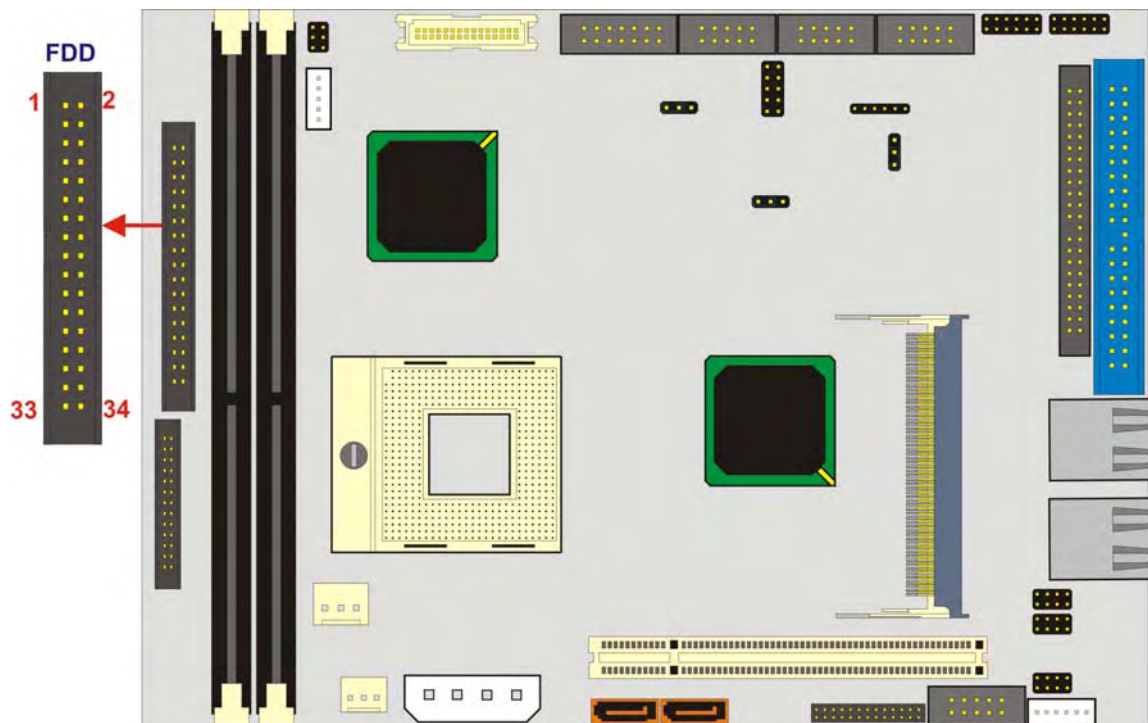

Figure 3-10: FDD Connector Location
- CN Location:** See **Figure 3-10**